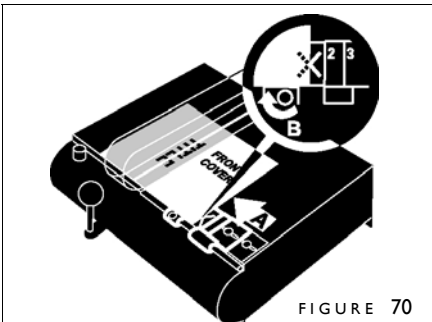

FIGURE 70
4. With the Centering Guide Lock unlocked, slide the Centering Guide **under** your cover until the cover right edge (A) lines up with the middle of the X (figure 70). Then tighten the Centering Guide Locking Knob (B).